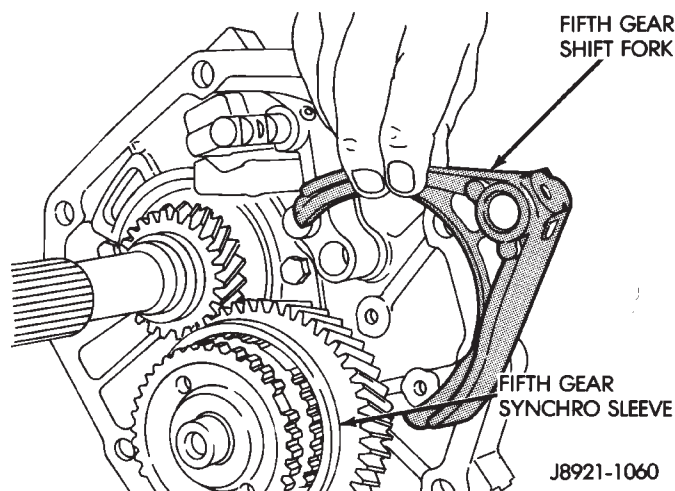
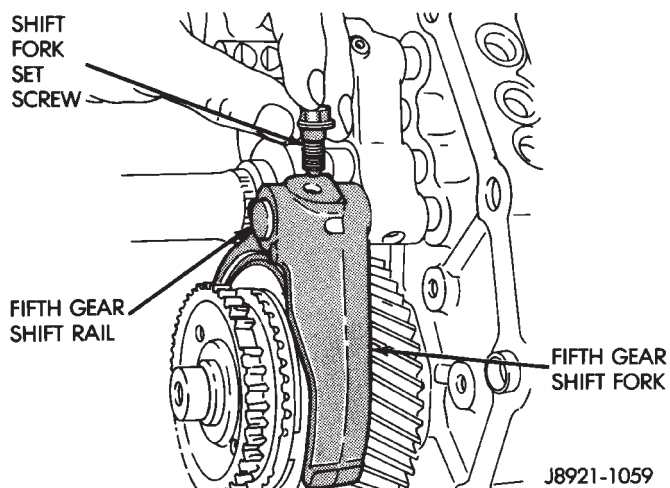

Fig. 54 Remove Fifth Gear Shift Fork
Fig. 53 Remove Fifth Gear Shift Fork Retainer Bolt
- (4) Remove bolt holding fifth gear shift fork to shift rail (Fig. 53).
- (5) Move fifth gear shift rail forward until the rail is clear of the shift fork.
- (6) Remove the fifth gear shift fork from the synchronizer sleeve (Fig. 54).